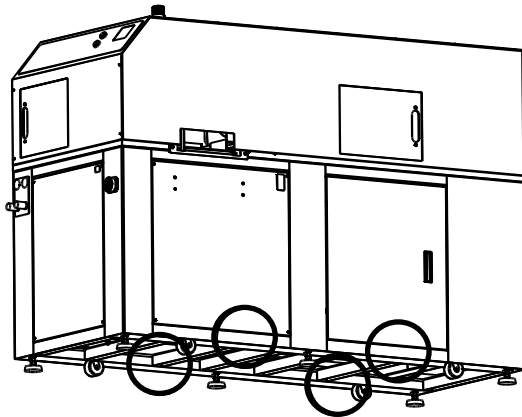

Figure 2-1. Lag Bolt Locations
Remove the packing materials and four lag bolts. One lag bolt is located in the frame, behind each of the lower side doors as shown in Figure 2-1.
2. Using a 9/16" open-ended wrench, remove the lag bolts from the two front locations shown in Figure 2-1.
4. Remove the two lag bolts from the two rear locations shown in Figure 2-1.